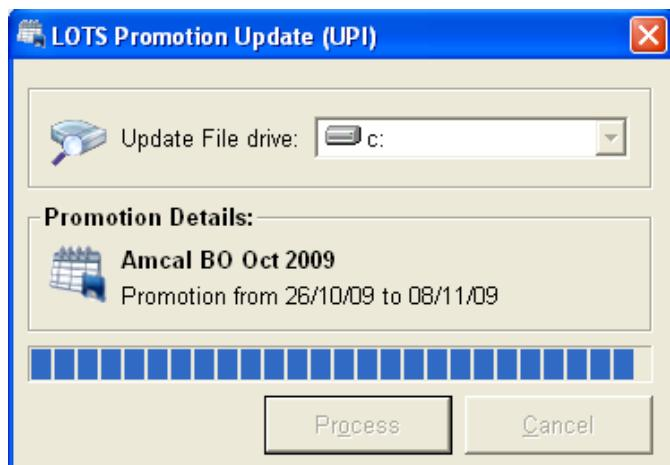

Figure 269
- Ensure that the 'C:' drive is selected from the 'Update File drive' drop-down list (as shown in Figure 269).
- After selecting 'Process' the 'Promotion Details' will be loaded and the status bar will be shown (see Figure 269).